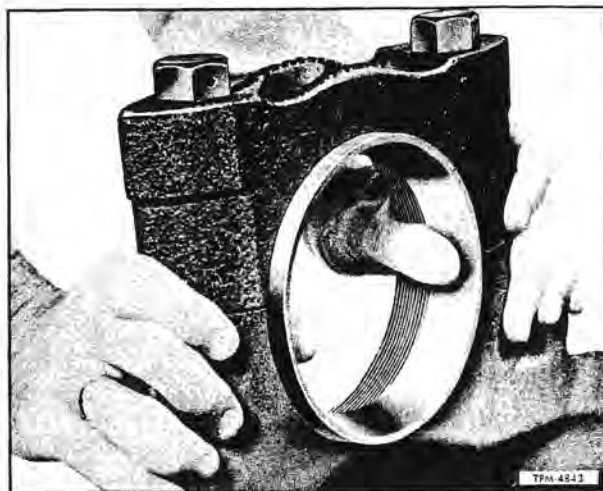

Figure 13—Checking Fit Of Differential Bearing Cup
1. Temporarily install bearing cup (44), adjuster ring (8), and bearing cap (45), then tighten bolts with washers to 570-630 foot-pounds torque.
2. Bearing cup must be a hand push fit (fig. 13) in bore, otherwise the bore must be reworked with a scraper or emery cloth until proper fit is obtained. Location of high spots in carrier bore can be readily located by applying a light coating of prussian blue to bearing cup.
4. Coat differential side bearing cones (43) and cups (44) with rear axle lubricant specified in LUBRICATION (SEC. 13).
5. Place bearing cups (44) over bearing cones (43), then position differential assembly in differential carrier.
6. Insert bearing adjusting rings (8) and turn hand tight against bearing cups (44).